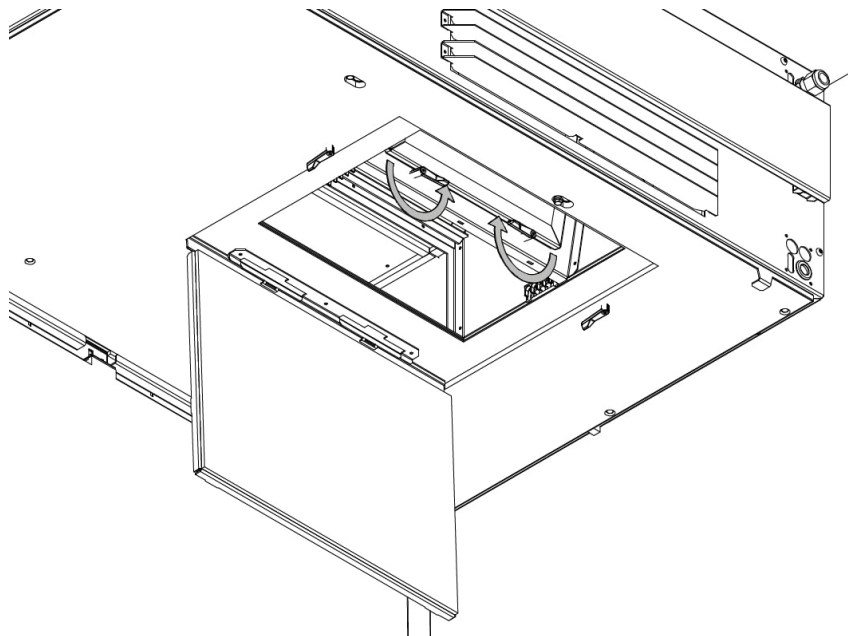

Figure 13: Close the coarse filter hinges
5. Close the coarse filter hinges, see Figure 13.